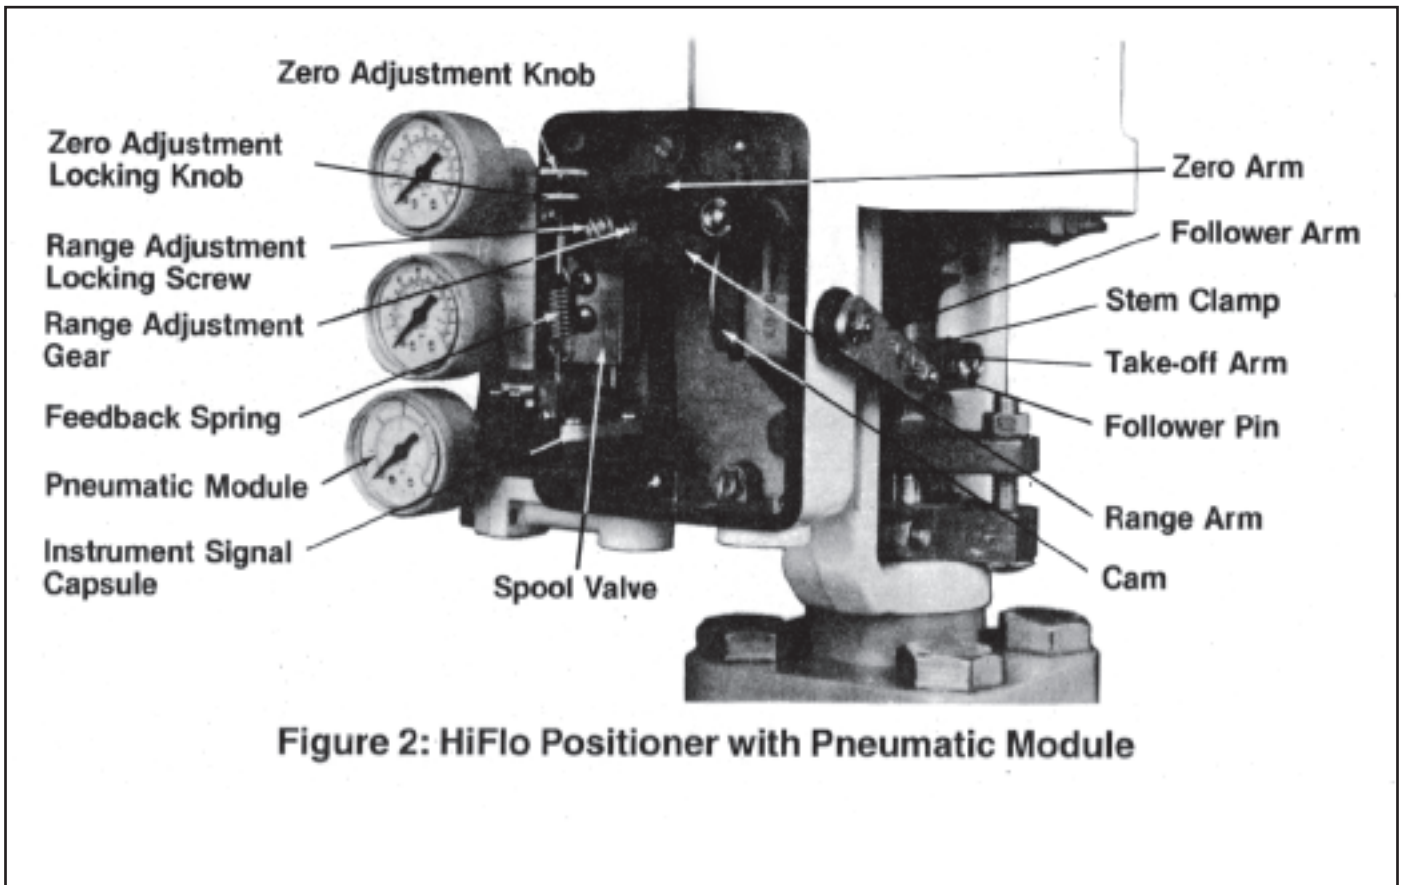

Figure 2: HiFlo Positioner with Pneumatic Module
1. Figures 2 illustrates on how to place the new stem clamp (if applicable) onto the actuator stem with the boss on the right side.
3. Bolt the take-off arm to the stem clamp so that the arm curves upward (toward the cylinder) - if it is not welded to the stem clamp. The holes and slots should line up in the follower arm and the take-off arm respectively. Figures 2 should be referred to.
Please refer to Figure 2 for Calibration. Proceed as follows :
Please refer to Figure 2 or 5 to remove or repair the positioner pilot valve. The procedure to be followed is given below.